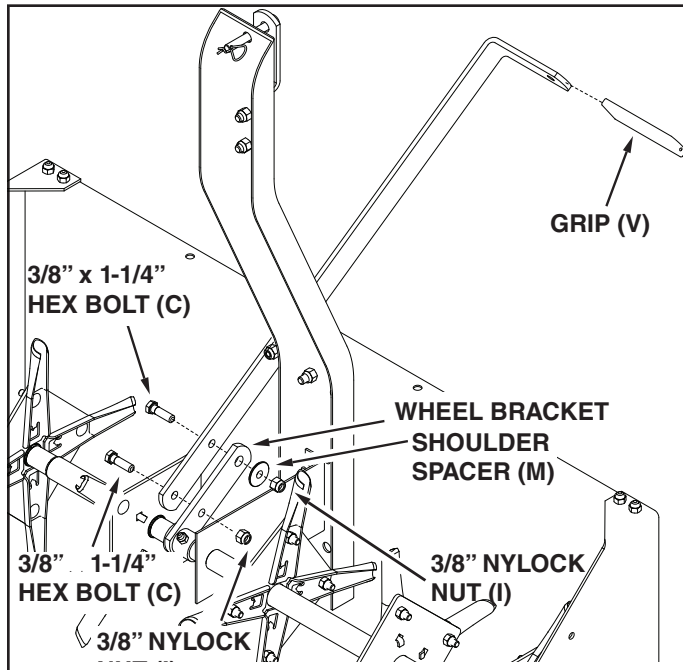

FIGURE 12
- Turn the lift handle as shown in figure 12 and attach it to the side of the wheel bracket that is indicated. Use a shoulder spacer (M), two 3/8" x 1-1/4" hex bolts (C) and two 3/8" nylock nuts (I) to attach the wheel bracket to the lift lever. Tighten the bolts and nuts. See figure 12. Please note this is a difficult step.
- Push the grip (V) onto the lift handle. See figure 12.